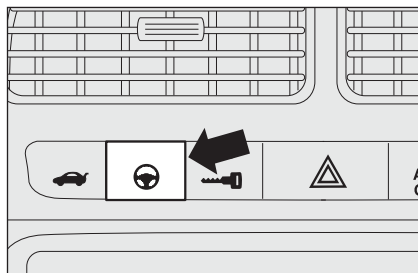

fig. 98
- ☐ the word **CITY** lit up on the button after it has been pressed **fig. 98**.